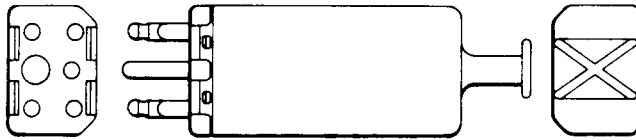

Fig. 5—429F Plug
2.05 429F and G: The 429F (Fig. 5) and G (Mfr Disc.) consist of a 5-pin plug base assembled in a housing of insulating material with a distinguishing cross mark on top of the finger grip. The 429F and G plugs are equipped with carbon blocks for 500-volt protection, as well as heat coils for sneak current protection. The 429F and G plugs are used on 302- and 303-type connectors to reverse the tip and ring of a cable pair. The 429F plug has a white body and a black cross.